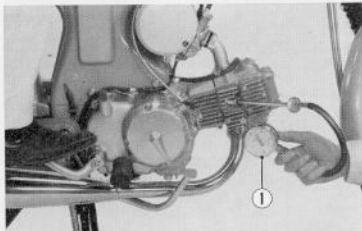

Fig. 5.1 Measuring compression pressure
- b. Insert the end of the compression gauge into the spark plug hole and hold firmly to prevent pressure from leaking. (Fig. 5.1)